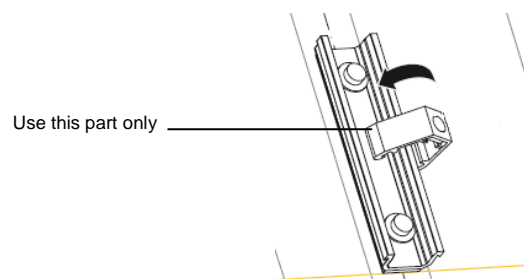

Figure 3 - Attaching the mounting bracket
- 3 Disassemble the Metasole bracket (Renusol part number 400019) and install only the bottom part of this bracket on the support profile, as shown in Figure 3.